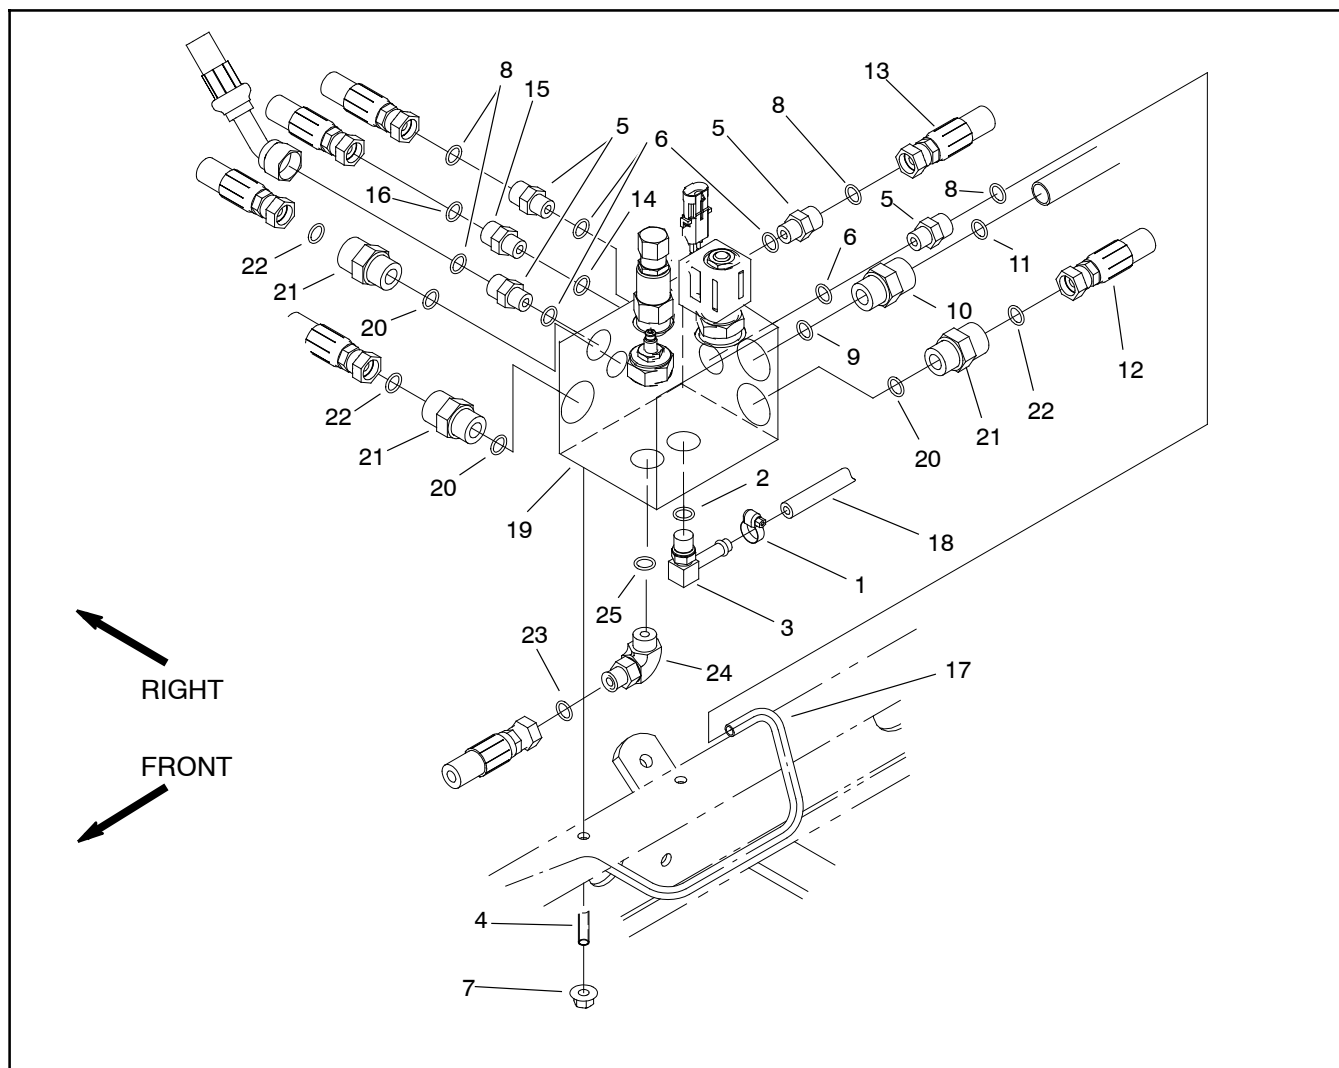

Figure 91
## Removal (Fig. 91)
3. Remove hydraulic manifold from the machine using Figure 91 as guide.
## Installation (Fig. 91)
2. Install hydraulic manifold to the frame using Figure 91 as guide.